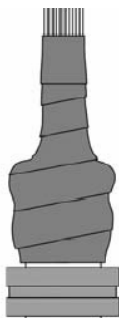

Figure 3. Self Leveling Green; StretchSeal Tape Application - Complete
- f. Inject potting between wires over entire wrap. Cut the StretchSeal tape and stop wrap approximately 2 inches past end of back shell. Follow instructions provided with potting compound for disposal. Refer to Figure 3.